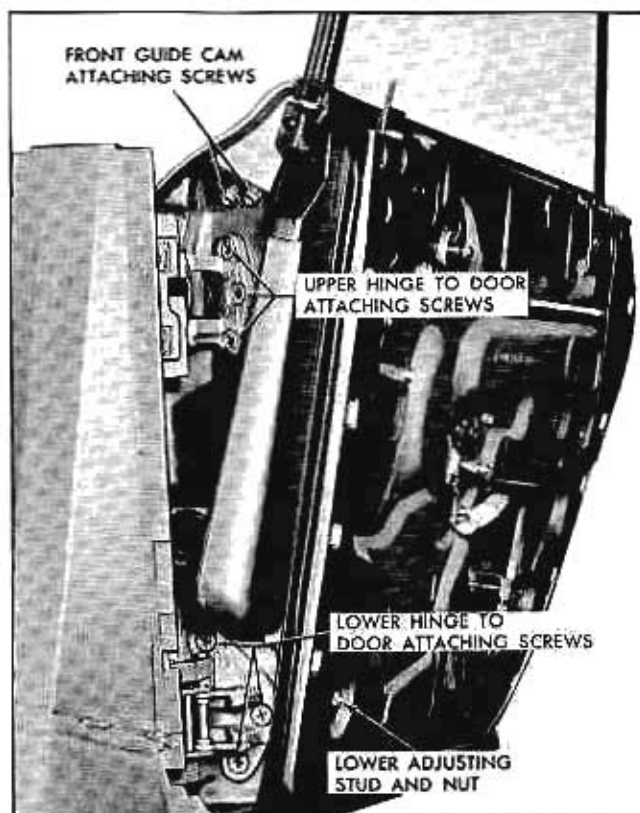

Fig. 2-42 Guide Cam Attaching Screws
3. At door hinge pillar facing, remove two screws securing guide cam support and remove support through access hole (Fig. 2-42).
(3) Loosen two front guide cam support attaching screws on door hinge pillar facing. (Fig. 2-42).
(4) Position front of window assembly in or out as required and adjust front female wedge plate accordingly; then tighten wedge plate attaching screw.
(5) Adjust front guide cam lower adjusting stud in or out as required and tighten nut. Tighten front guide cam support attaching screws on door hinge pillar facing.
(6) Reseal lower adjusting stud and nut with body caulking compound.